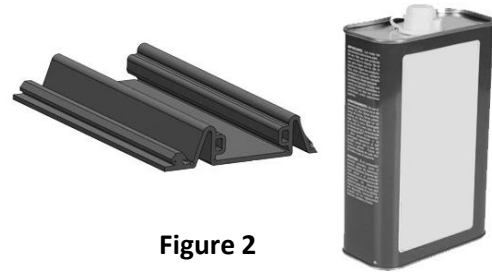

Figure 2
2. Position the elastomeric seal into position and push the seal bulbs into the extrusion channels as shown. Make sure you hold the “T” grid securely and seat the bulbs all the way into the channel. Do not stretch the seal lengthwise during installation. **See Figure 2.**
See Figure 2